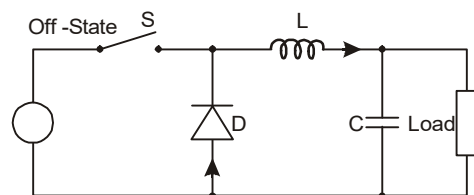

Fig. 5.5: Off-state
- When the switch is opened again (off-state), as shown in Fig. 5.5, the current will start decreasing. The decreasing current will produce a voltage drop across the inductor which will be opposite to the drop at on-state and hence, the inductor becomes a Current Source. The stored energy in the inductor's magnetic field is released which supports the current flow through the load. This off-state current is added to the current flowing during on-state, hence, the total current becomes greater than the average input current (being zero during off-state).
- When the switch is opened, as shown in Fig. 5.5, the diode is forward biased. The voltage across the inductor is $V_L = -V_o$ (drop in diode is neglected). Current I_L decreases.